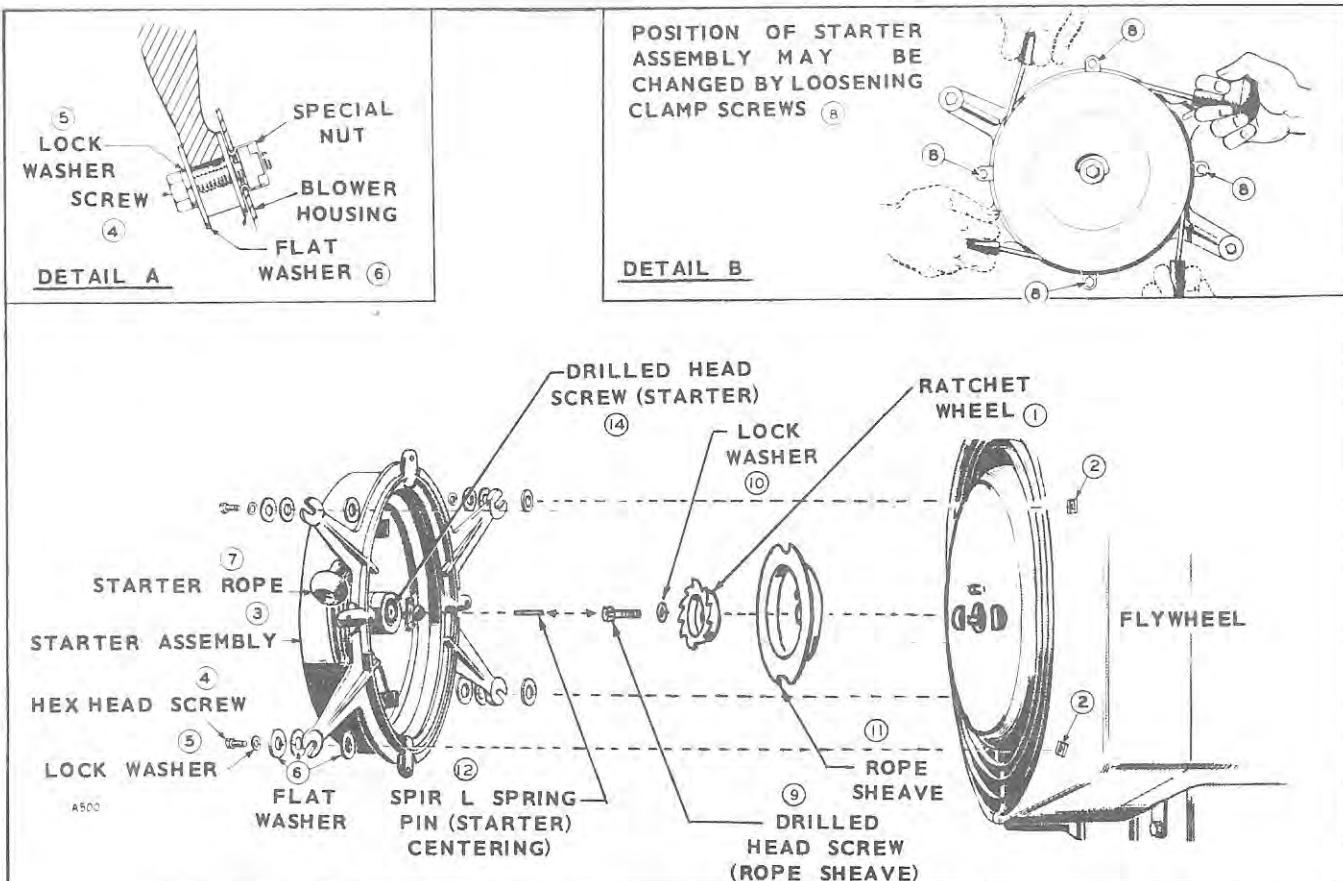

Figure 34. Installing Starter Kit (Spec D and Later)
**Units Beginning Spec. D:** See that the engine blower housing is in good condition. If the mounting holes are worn or if the blower housing is otherwise damaged, replace it with a new one. Refer to Figure 34.
1. Install the new ratchet wheel (1) against rope sheave (11) using lock washer (10) and flywheel mounting screw (9). Discard the large flat washer from engines so equipped. Engage drive hole with flywheel boss.
3. Install centering pin (12) in starter center screw (14) allowing  $3/8"$  to protrude. For re-installation adjust pin depth.
5. The direction of pull on the starter rope is adjustable to fit the requirements of the individual installation. See detail B. To change the direction of pull, loosen the four clamp screws (8) and turn the starter in its mounting ring to the desired position. Tighten the four clamp screws securely. Try the starter several times, making sure the pull rope does not rub against the clamping screws.